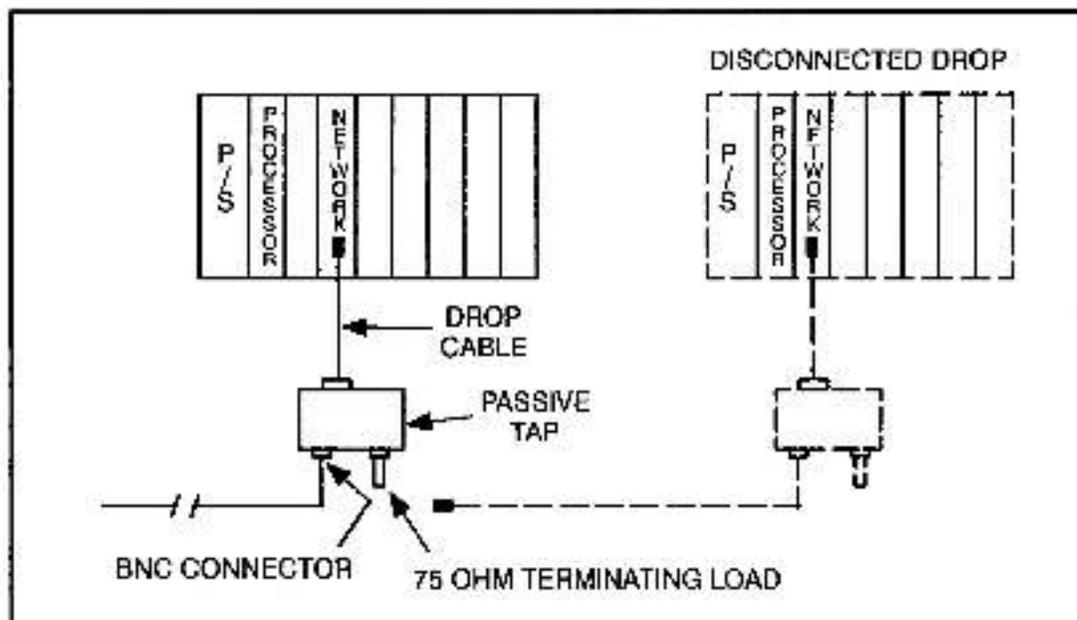

Figure 3.30 - Disconnecting a Drop from the End of the Network Cable System
- Step 2. To disconnect a drop from an end of the network, refer to figure 3.30 and use the procedure below. Skip to step 3 for the procedure to disconnect a drop from along the cable route.